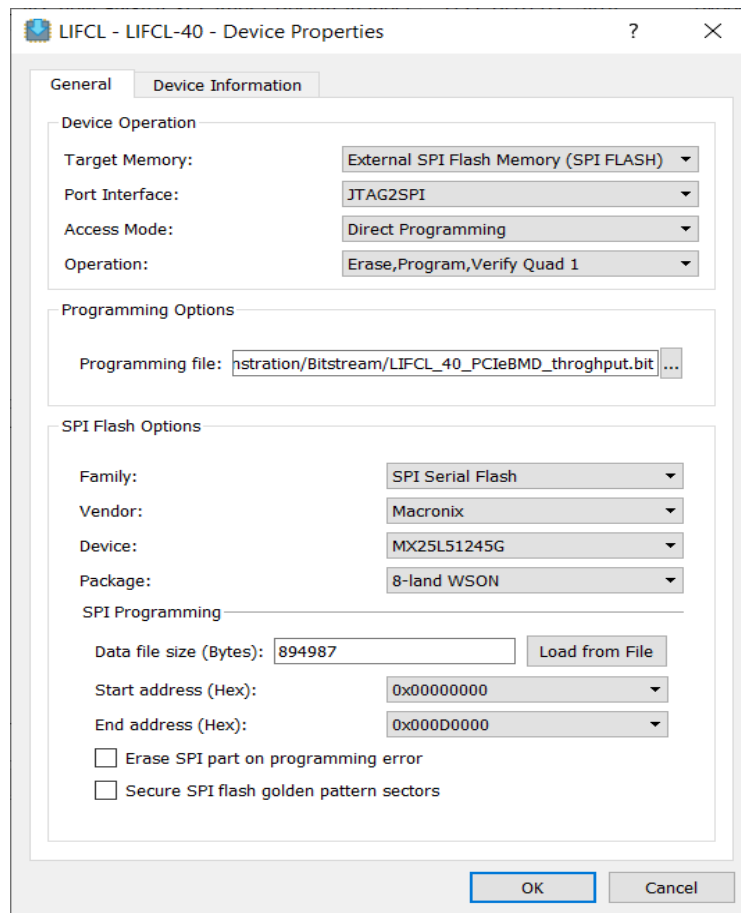

Figure 3.9. Device Properties Window for CrossLink-NX SPI Flash Programming
- For CrossLink-NX family, select the settings as shown in Figure 3.9 below.